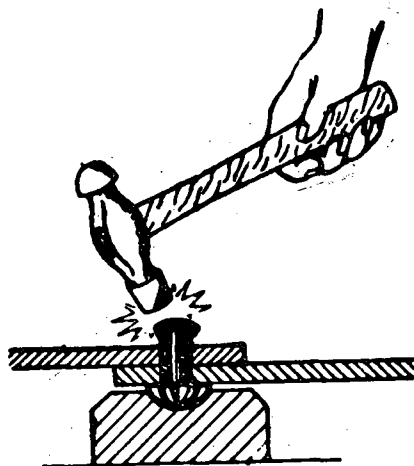

Fig. 5
- e) Gently tap the edges of the rivet to start sharpening the head (Fig. 5)